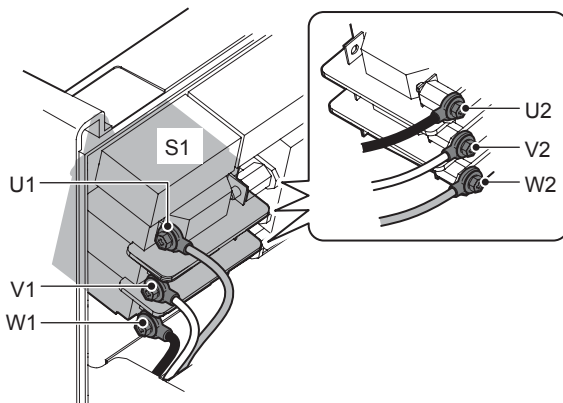

Figure 11-7: Check points U1, U2, V1, V2, W1 and W2
- 1) Verify input voltage (Phase-to Phase) using an AC voltmeter. (The capability of the voltmeter should be more than 600VAC). Measure the point between lines U1 and V1 on the input switch, S1. Measure the point between lines U1 and W1 on the input switch, S1. Measure the point between lines V1 and W1 on the input switch, S1. The location of points U1, V1 and W1 on switch S1 are indicated in Figure 11-7. When using a single-phase connection, the voltage can be verified only between U1 and V1.
The location of points U2, V2 and W2 on switch S1 are indicated in Figure 11-7. When using a single-phase connection, the voltage can be verified only between U2 and V2.